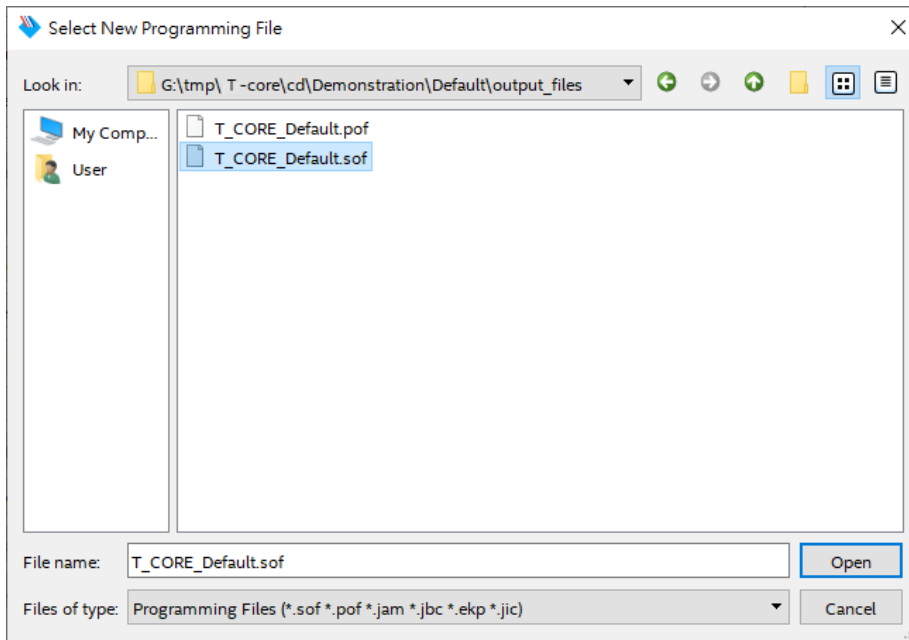

Figure 2-9 Select the .sof file to be programmed into the FPGA device
- Open the “output_files” folder and select the .sof file to be programmed, as shown in **Figure 2-9**.